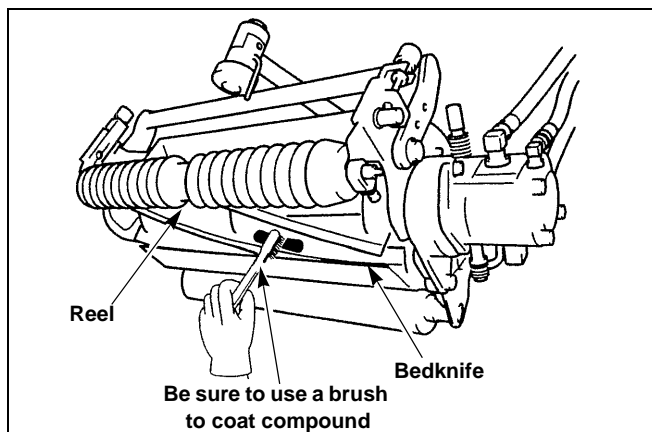

Figure 4-60
9. **Be sure to have a qualified mechanic show you how to do this for the first time before you attempt this on your own.** Using a minimum 16" (40.64cm) long handled brush, apply backlapping compound to the reel starting at one end and working toward the other. **Never use a short handled brush.** Figure 4-60